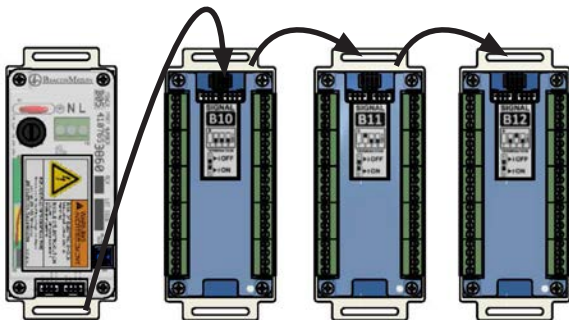

Figure 214: Daisy Chain of Power Supply
3. Connect the grey cable(s) provided; from the power supply to the white sockets on the I/O modules in a daisy chain manner (Figure 214).
NOTE: I/O Modules and Power Supply will need to be daisy chain connected via the grey cables supplied with each I/O module (See figure 214).